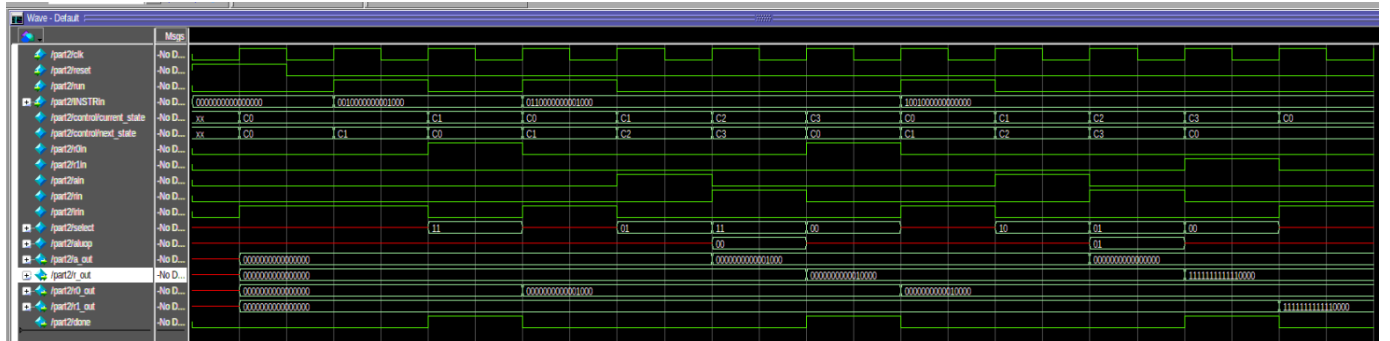

Figure 5: Expected Output from the provided do file
6. You are given an initial do file to test your design. The output signals should resemble the waveforms in Figure 5. Review the do file and waveforms, make sure you understand the signal behavior in the figure, and verify that your outputs match those shown using modelsim.